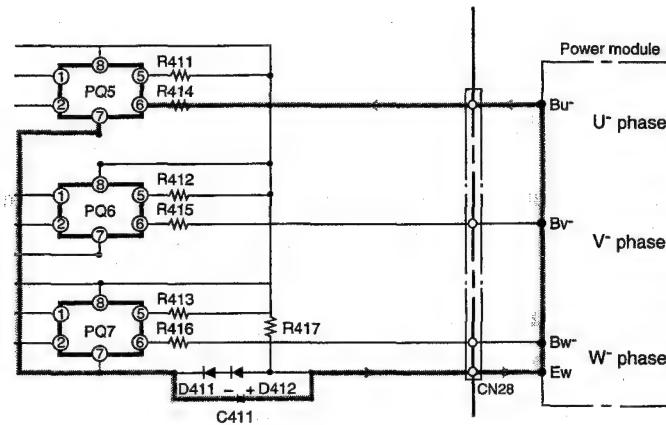

Fig. 7-5
- When pin ⑥ of the micro computer goes "LO" → "HI", a photocoupler between PQ5 pins ① and ② turn off and reverse bias current flows to C411 → power module's Ew- terminals → BU- terminals → R414 → PQ5 to cut off the lower arm transistors. (Fig. 7-5)